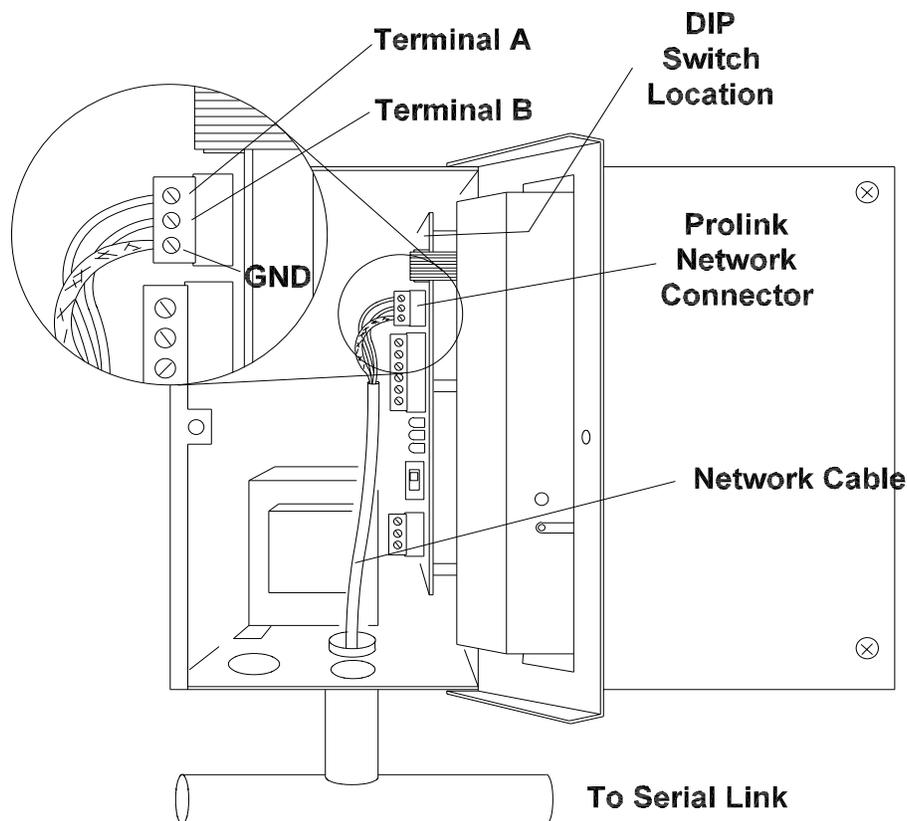

Figure 2.2 Network cable connectors to Prolink
The following procedure should be followed when connecting the Serial Link to the Prolink chassis (refer to figure 2.2).
Step 2: Connect the two network cable conductors to the network terminals A and B on the Prolink power supply board. Polarity is important. See figure 2.2